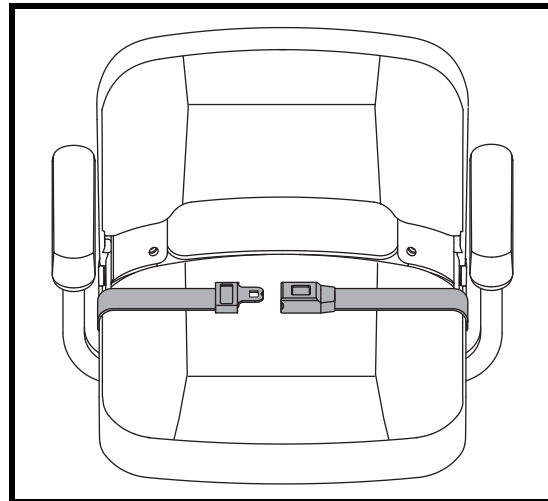

Figure 22. Positioning Belt - Metal Tab Style
Your scooter seat may be equipped with an auto-type positioning belt that can be adjusted for operator comfort. See **figure 22 or 23**. The positioning belt is designed to help support the operator so that he or she does not slide down or forward in the seat. The positioning belt is not designed for use as a restraining device.
1. Insert the metal tab on the right side of the belt into the plastic housing on the opposite strap until you hear a “click.” See **figure 22**.